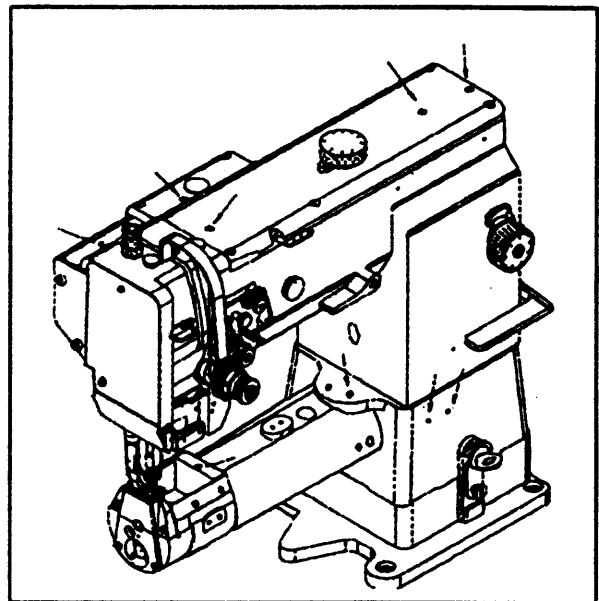

Fig.14
14. Adjustment of stitch length and reverse sewing (Fig.14):